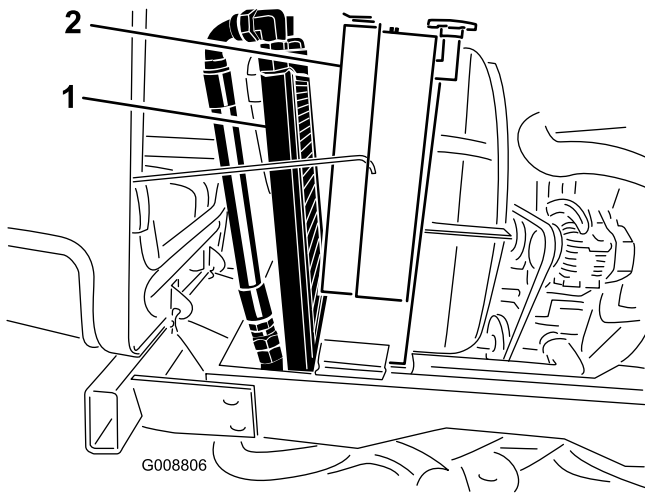

Figure 68
- Pivot the oil cooler rearward. Clean both sides of the oil cooler and radiator area (Figure 68) thoroughly with compressed air. Start from the fan side and blow the debris out towards the back. Then clean from the back side and blow towards the front. Repeat procedure several times until all chaff and debris is removed.